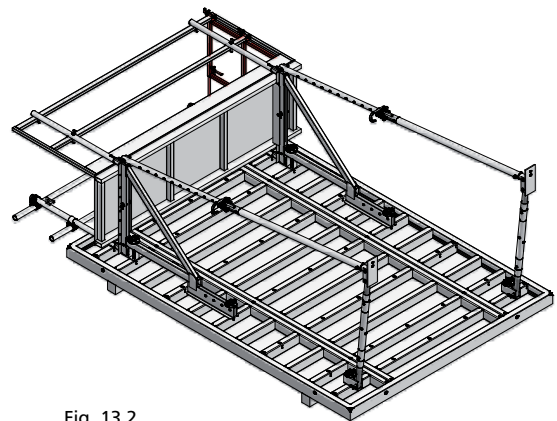

Fig. 13.2
2. A second formwork unit – with or without hatch and ladder – is assembled on the ground as described on p. SB-6 through SB-8 and equipped with lifting arms. No front railing is required on the platform end that is going to adjoin to the platform of the unit already in vertical position (Fig. 13.2).